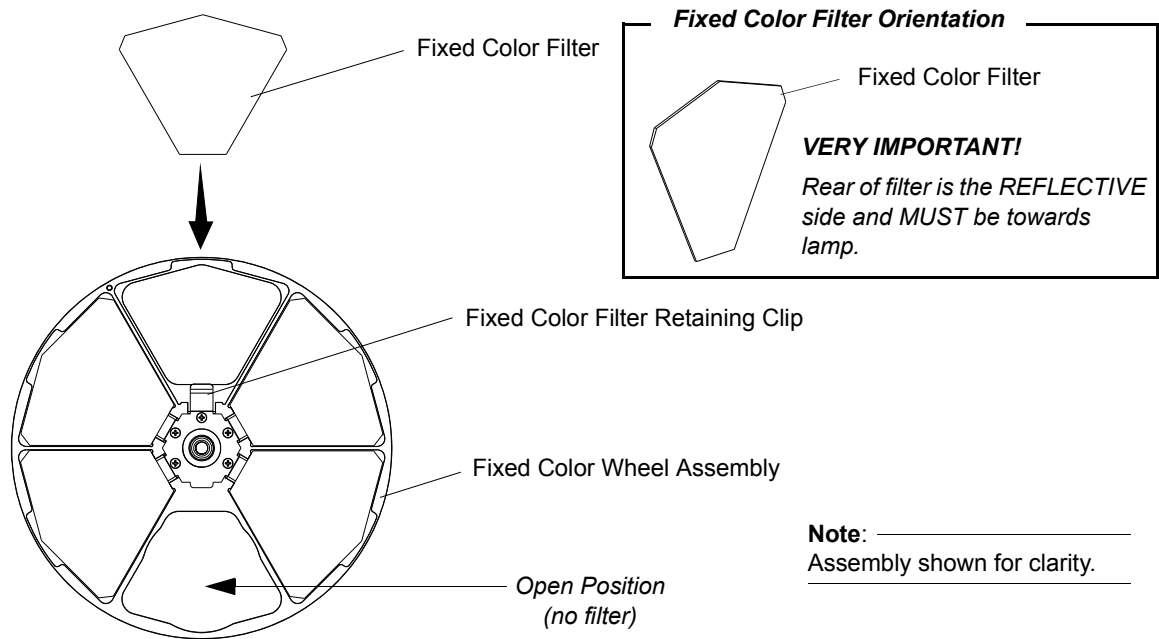

Figure 2-6: Installing Fixed Color Filters
- Step 6. Install replacement filter into slot. Note orientation of fixed color filter as indicated in Figure 2-6. Make sure filter is inserted and secured by fixed color wheel retaining clip as shown in Figure 2-6.